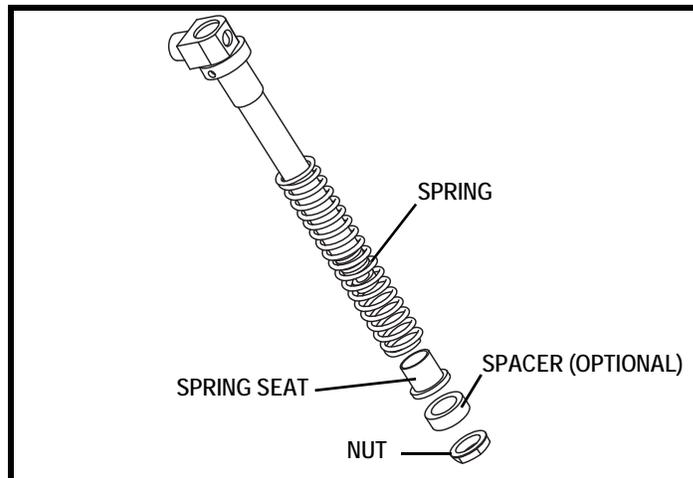

Figure 40. Upper Body Extension Limiter/Tensioner, Exploded View (Kids ROCK 2 and ROCK 3)
5. Using a 3/4-in. wrench, remove the nut from below the spring. **See figure 40.**
8. Install spring seat. Install spacers if desired. **See figure 40.**